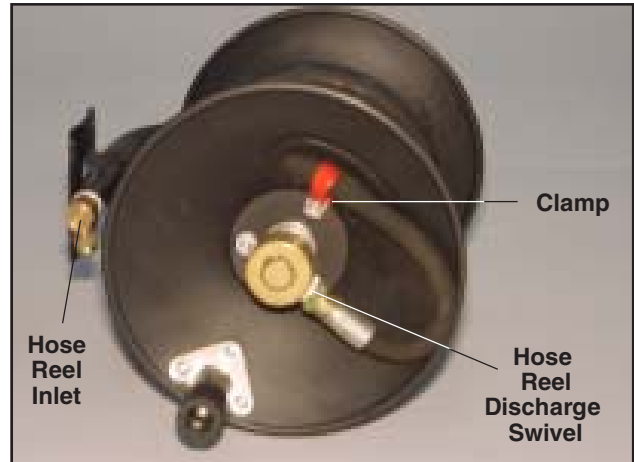

Figure 2
2. Using the supplied 1/2" MNPT x 1/2" JIC 90° elbow (steel), wrap the NPT side with Teflon tape and screw into the inlet of the hose reel. Tighten connections carefully with wrench. See *Figure 2*.
6. Wrap threads with Teflon tape and attach end of 50' high-pressure hose to hose reel swivel by threading hose through access hole on reel. Tighten securely. See *Figure 2*.
7. Secure hose to reel with clamp and tighten nut as shown. Rotate hose reel to wrap 50' hose around reel. See *Figure 2*.